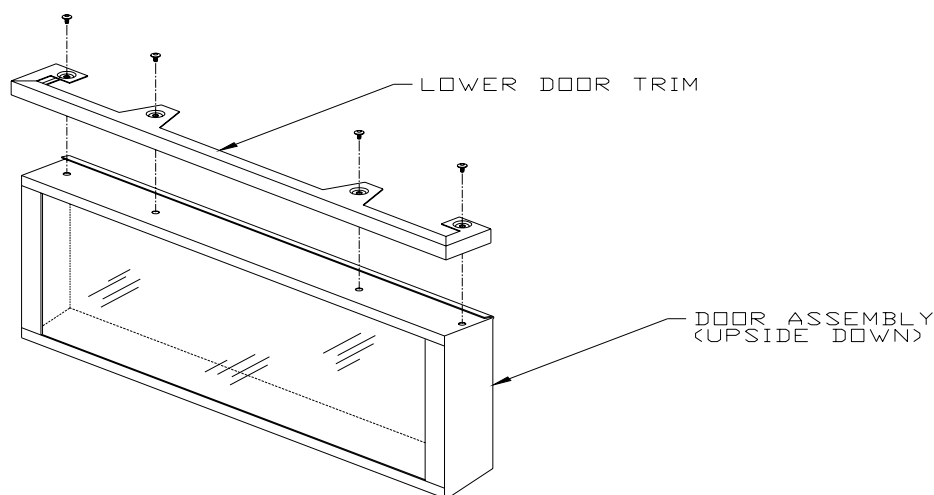

Figure 21
4. Secure the lower door trim with the four screws that were previously removed (see Figure 21).